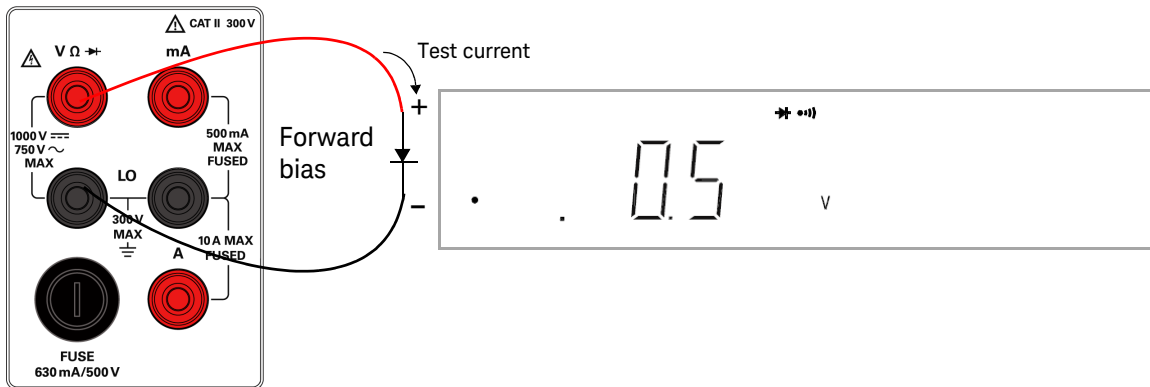

Figure 1-16 Forward-biased diode/continuity test terminal connection and display
- 2 Connect the red and black test leads to the input terminal as shown in Figure 1-16 on page 42.
- 3 Connect the red test lead to the positive terminal (anode) of the diode and the black test lead to the negative terminal (cathode). Refer to Figure 1-16 on page 42.